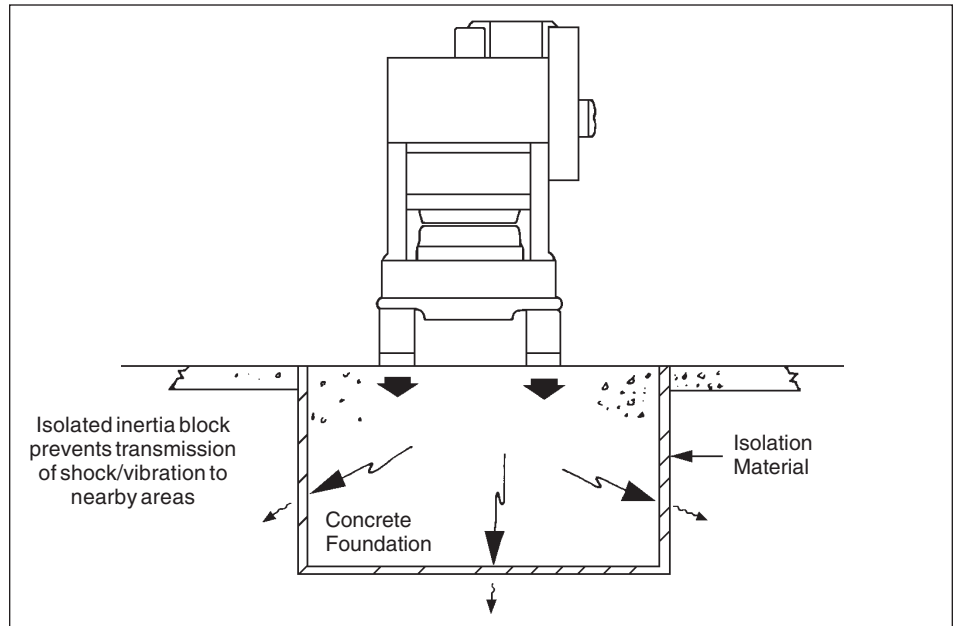

Figure 3
3. Slide inertia forces result from acceleration forces acting on the slide and are an extremely important consideration in the design of a press mounting system. They act primarily in the direction of slide travel and tend to alternately lift the press from its supporting surface and push it back into its supporting surface. In some high speed presses it is possible for these forces to exceed the dead weight of the press. This condition establishes a limitation as to whether or not a press should be mounted on freestanding mounts. Machines which are manufactured with dynamic balancing equipment do not have this problem, and can safely be mounted on press mounts. Older high speed presses should be securely bolted down, and are good candidates for isolated foundations (see figure 3).